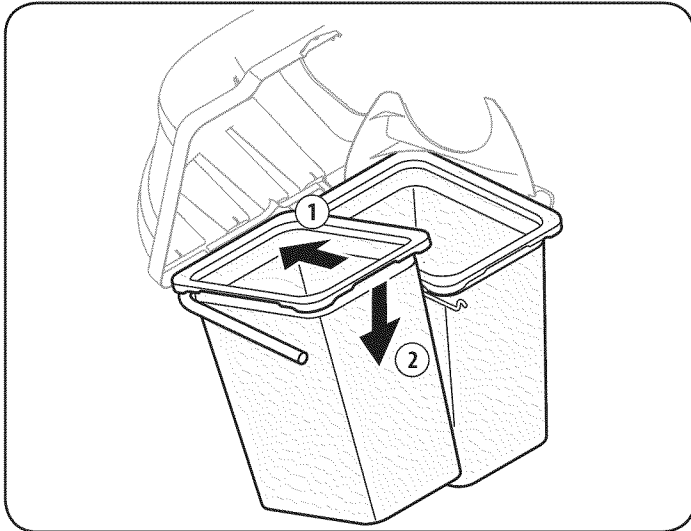

Figure 13
14. Install both bag assemblies onto the bag support brackets by inserting the front edge in first, as seen in 1 of Figure 13, and setting the back edge down until it fits into the assembly (2).